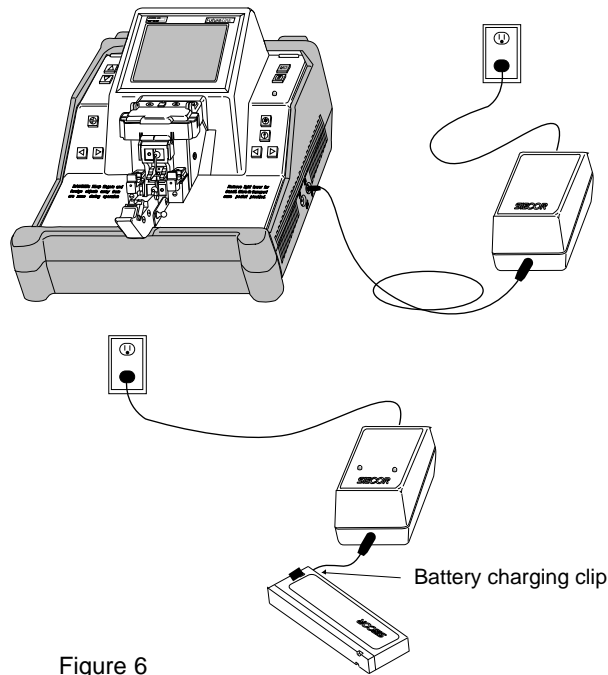

Figure 6
3.8 The Compact Fusion Set II is intended to be operated from the rechargeable battery. However the charger can be plugged into the fusion set during operation by means of the DC-in jack on the right hand side of the case (Figure 6) - *be sure to use the correct jack.*